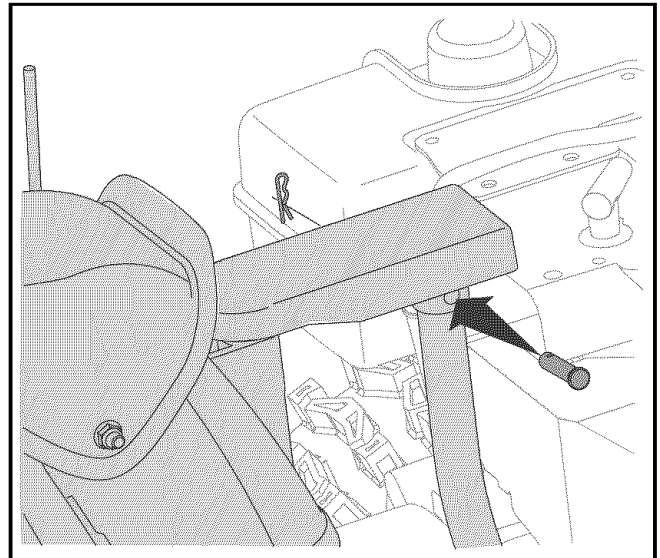

Figure 8
11. Insert the clevis pin, earlier removed, through the holes on the chute control box and chute support tube. Secure with the hairpin clip. See Figure 8.